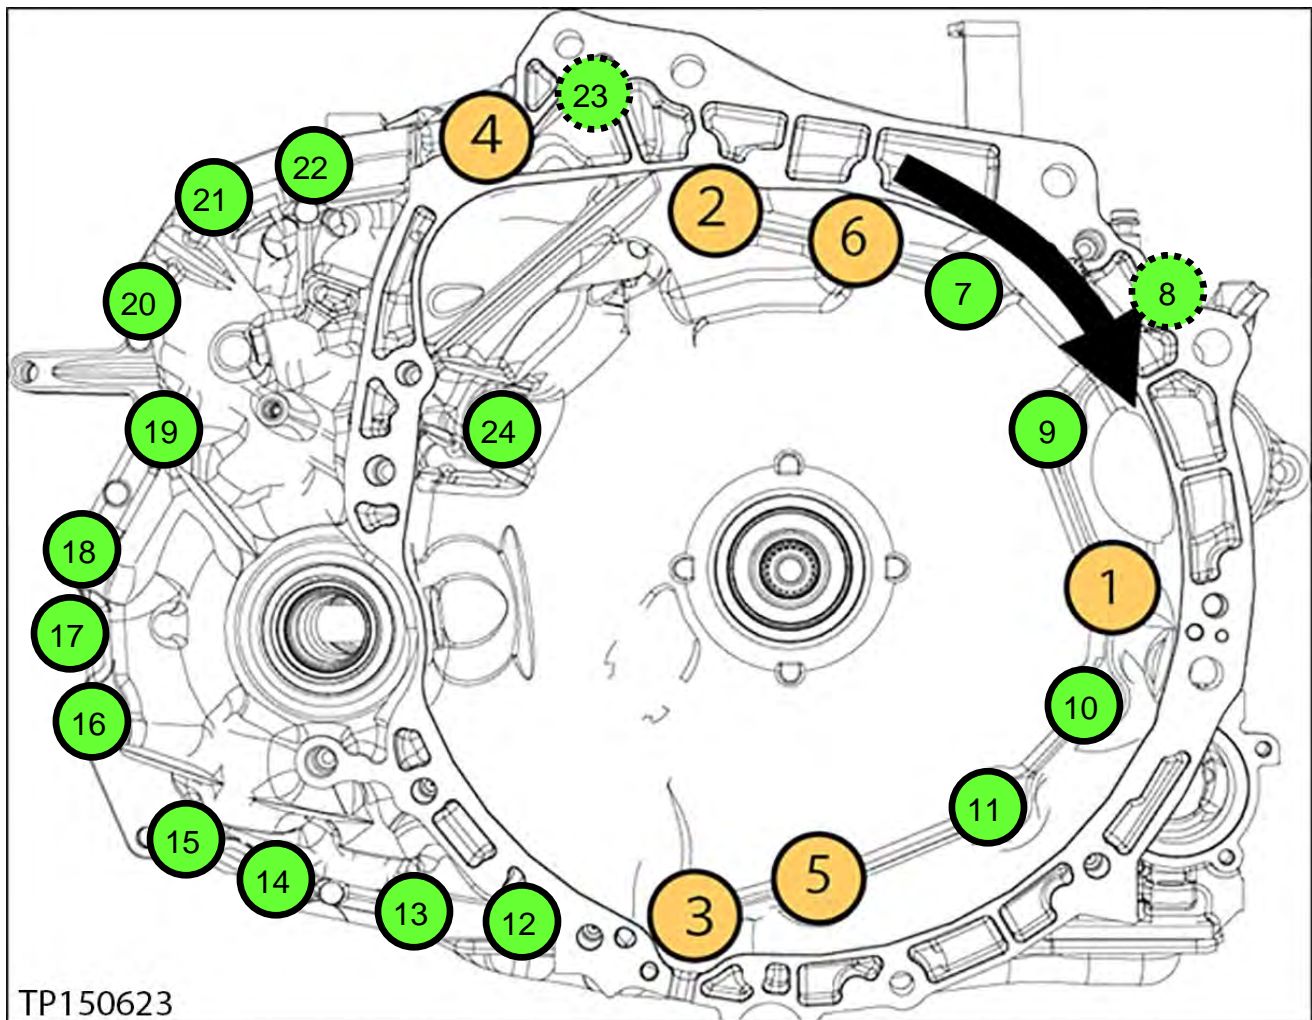

Figure 16I
15. Install the torque converter housing onto the CVT case (see Figure 16I for torque sequence):
- Install new bolts (24).
- a. Torque the first six (6) bolts with symbol  in numbered sequence (see below).
- IMPORTANT:** Make sure to torque the bolts in the sequence shown (Figure 16I).